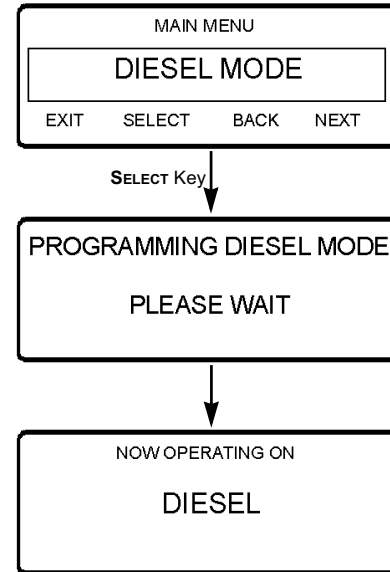
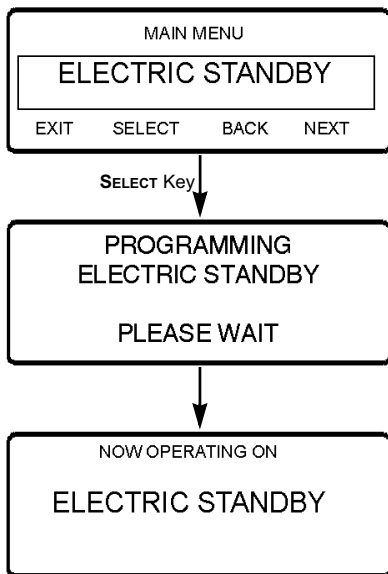

Figure 87: Programming Diesel Mode
Figure 88: Programming Electric Standby Mode
3. Press the **NEXT** soft key until the Electric Standby/Diesel Mode Screen appears. See Figure 87 and Figure 88.